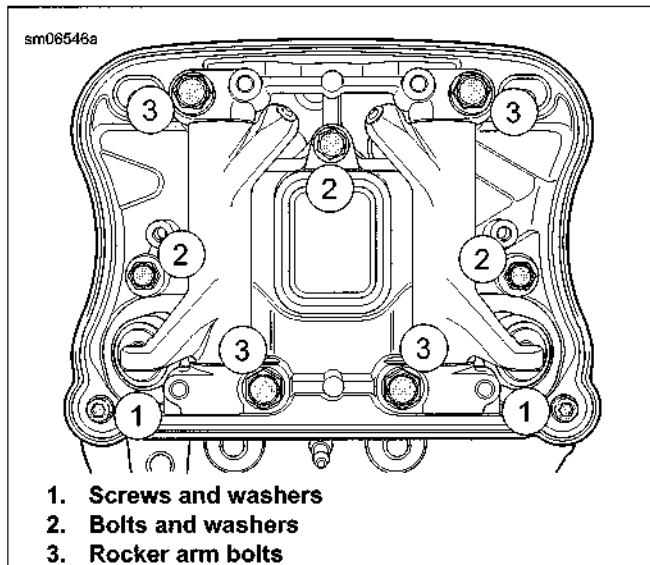
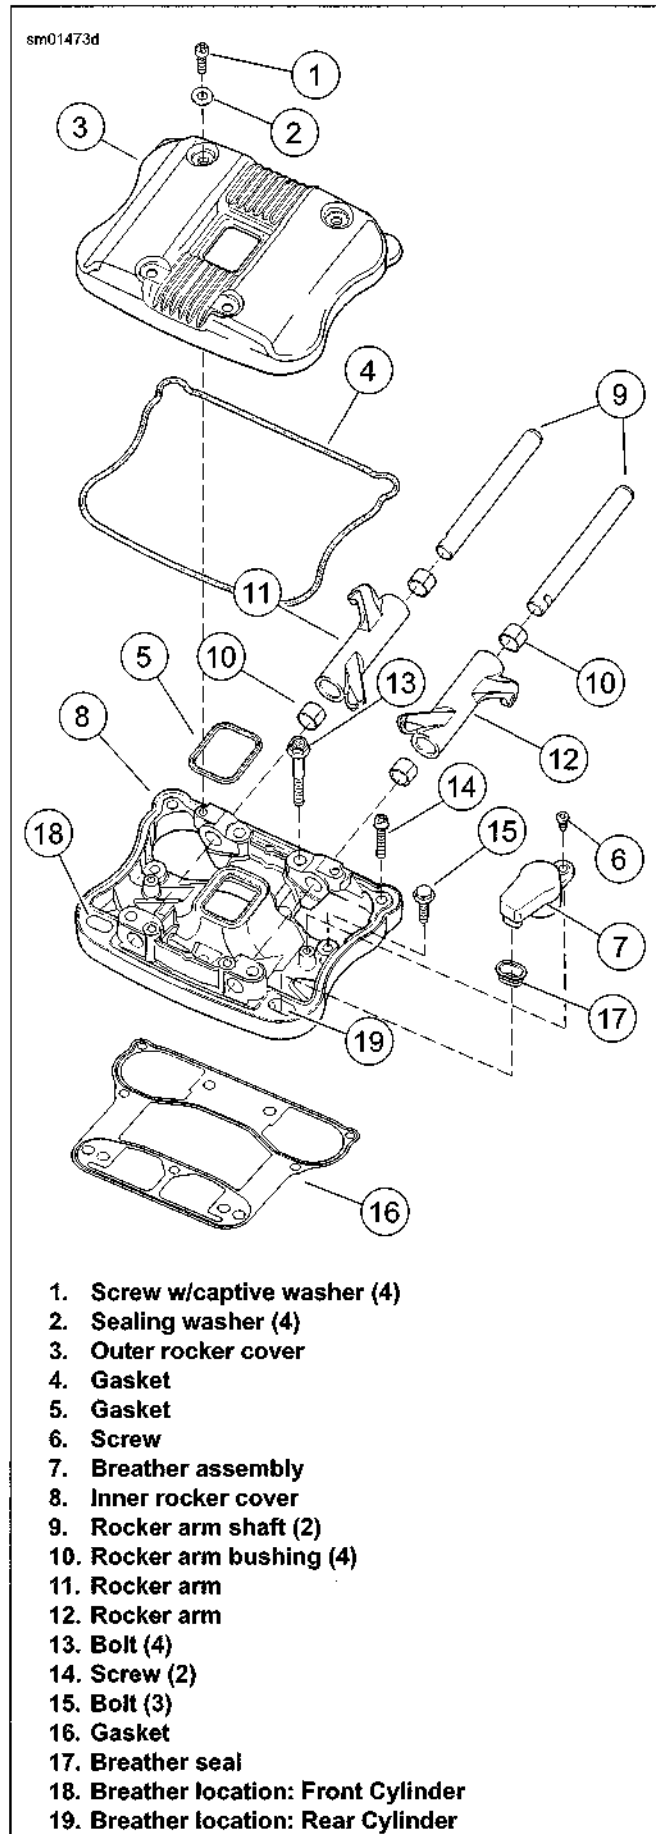

Figure 3-16. Inner Rocker Cover Fasteners (typical)
Figure 3-18. Rocker Cover Assembly
2. See Figure 3-18. Remove four screws with captive washers (1) and sealing washers (2). Discard sealing washers.
3. Remove outer rocker cover (3) or (20).
6. See Figure 3-16. Remove hardware securing inner rocker cover to cylinder head in the following order.
- a. Remove two screws and washers (1).
- b. Remove three bolts and washers (2).
- c. Loosen four rocker arm bolts (3) in 1/4-1/2 turn increments using a cross pattern. This relieves valve spring pressure evenly on inner rocker cover.
7. See Figure 3-18. Remove inner rocker cover (8) or (24). Remove and discard gasket (16).
8. Remove screw (6), breather assembly (7) and breather seal (17). Discard seal.
10. See Figure 3-18. Remove rocker arms (11, 12). Mark the rocker arms for reassembly in their original locations.